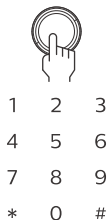

Figure 2
1. Open the door and press the [Setting] key on the inside of the door at the hinge area. The [*] key on the panel will flash red, and a voice prompt will say "Please enter fingerprint or password" As shown in Figure 2, input your fingerprint at the fingerprint window, and the voice prompt will say 'Please enter fingerprint again' Repeat this process 5 times, and the voice prompt will say 'Fingerprint setup successful' if the fingerprint is configured successfully. If the configuration fails, it will display 'Fingerprint setup failed.'